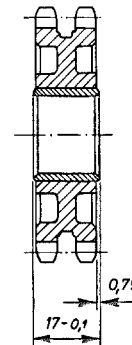

Figure 05-24/2
If worn out, the bushing in the idler sprocket should be pressed out; press in a new bushing with pre-turned bore. The bushing should project by 0.75 mm on both sides (see Figure 05-24/2).
If the idler sprocket support shows wear on the pivot pin (7) or in the bore for the pin (6), do not fail to replace the idler sprocket support (1) (see Figure 05-24/1).